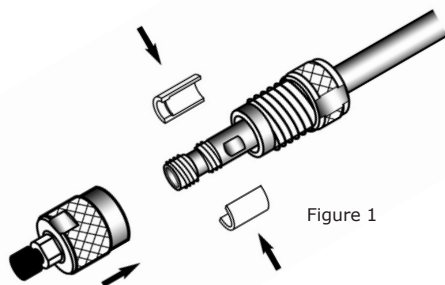

Figure 1
2. Place 2 split collets around the neck of the cartridge as shown in Figure 1.